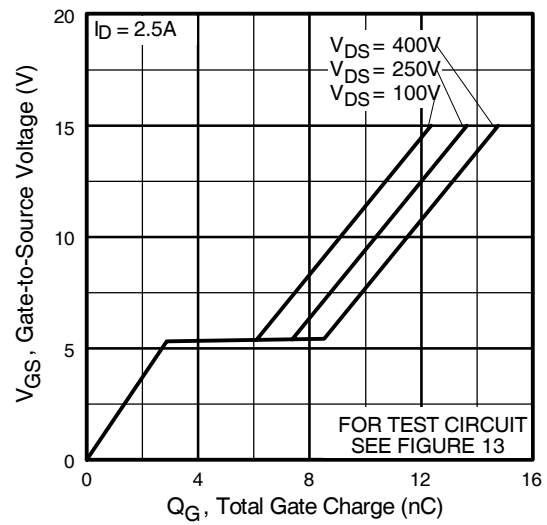

Fig 6. Typical Gate Charge Vs. Gate-to-Source Voltage
| Q_{gd} | Gate-to-Drain ("Miller") Charge | — | — | 8.5 | | $V_{GS} = 10V$, See Fig. 6 and 13 ④⑥ |